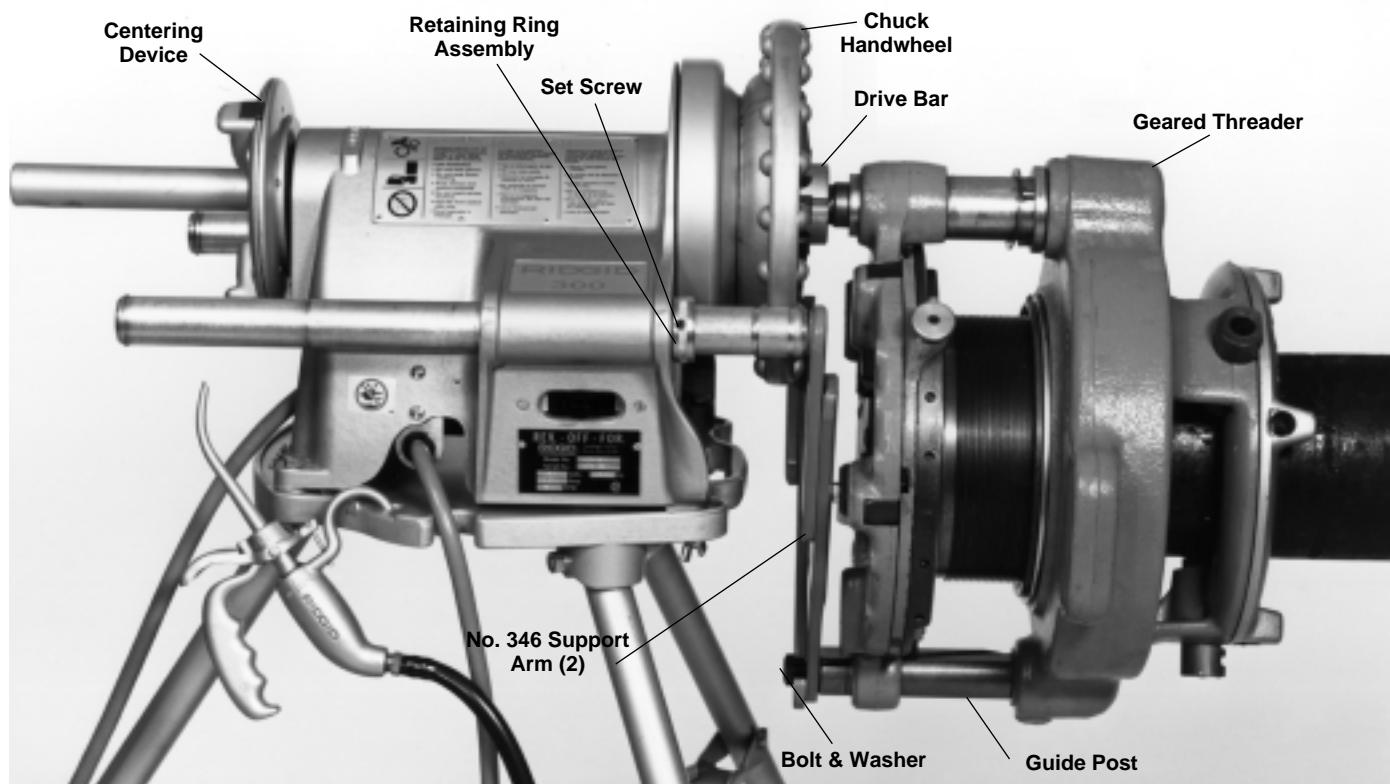

Figure 16 – No. 161 Geared Threader Close-Coupled to Power Drive
- 161 Threaders** (Figure 16) – Insert No. 346 support arms into support bars and secure collars against power drive body with set screws.
- 161 Threader** (Figure 16) – Remove set screw (plug) from threader guide post and secure support arms with bolt and washer.